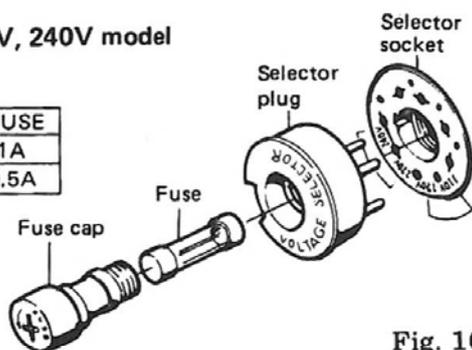

Fig. 16
Fig. 16 shows the model designed to operate at any of four selected voltages (110V, 120V, 220V, 240V).
2. Use a Phillips screwdriver to take out the FUSE CAP and fuse (Fig. 16).